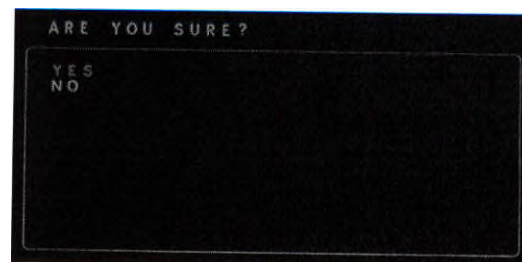

Figure 31. Select Reset Factory Defaults
2. To reset the System to the original factory default settings, select **RESET FACTORY DEFAULTS**. A confirmation screen containing the question **ARE YOU SURE?** will open (Figure 31). **YES** will blink